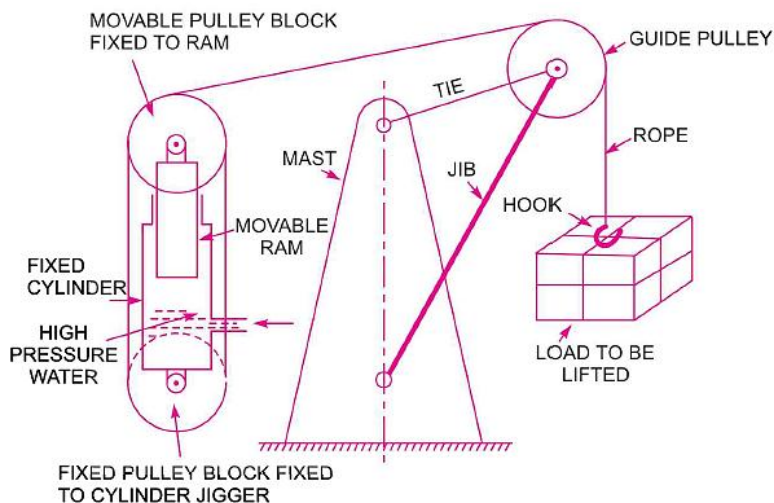

Fig.10.5 –Hydraulic Crane
- ▶ **Craning arrangement** consists of a mast, tie, jib and guide pulley as shown in Fig.10.5.
- ▶ A wire rope, one end of which is fixed to a movable pulley is taken round all the pulleys of the two sets of the pulleys and finally passes over the guide pulley, attached to the jib as shown in Fig.10.5.